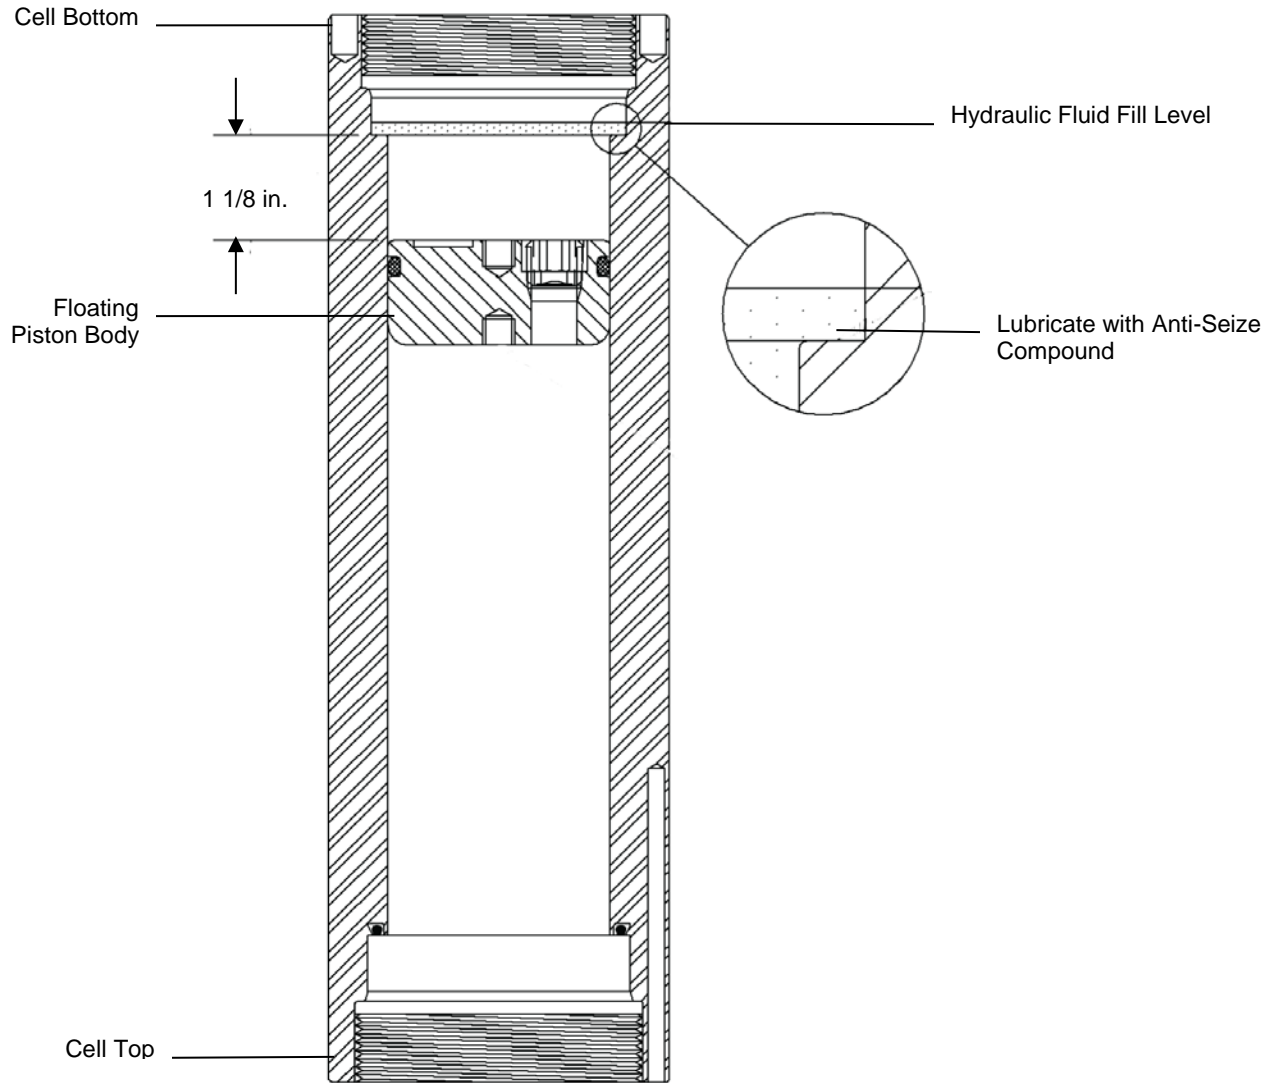

Figure 5-2 Piston Position in PPA Cell
- Figure 5-2, a drawing that shows the position of the floating piston and hydraulic fluid level in the PPA cell (cell is inverted)
Refer to Figure 5-2.
- b. With the cell upside down (Figure 5-2), install the piston into the cell bottom, curved end first.